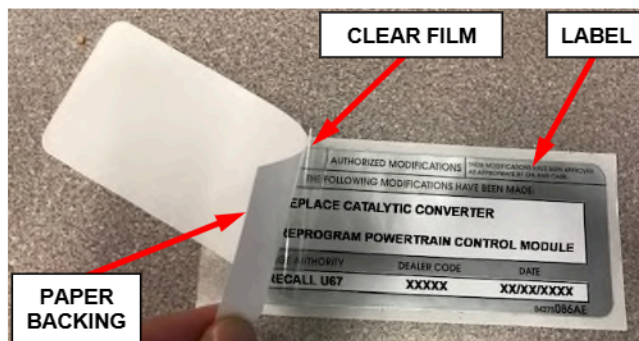

Figure 15 – Apply Clear Film
2. Remove the paper backing from the clear film on the front of the authorized modifications label then carefully apply the clear film over the front of the authorized modifications label (Figure 15).